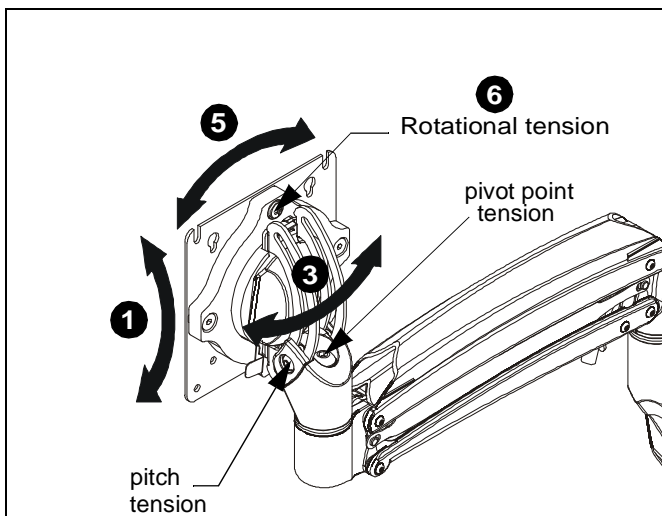

Figure 19
1. Adjust pitch to desired tilt position. (See Figure 19)
2. Adjust pitch tension screw to change the adjustment tension. (See Figure 19)
3. Adjust pivot position as desired. (See Figure 19)
4. Use 3/16" hex key (Q) to adjust pivot point tension screws to change pivot adjustment tension. (See Figure 19)
5. The monitor may be adjusted 90 degrees in either direction in order to provide a portrait view of the monitor. (See Figure 19)
6. Use 3/16" hex key (Q) to adjust rotational adjustment screw to adjust rotational tension. (See Figure 19)